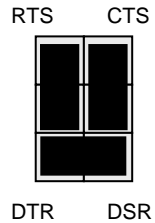

Figure 12 Jumper Settings on Flow Control block for various serial port flow control and handshaking configurations (see Figure 10 for location of jumper block)
5. Set the hardware flow control jumpers to *RTS/CTS Flow Control Across CATx Link* as shown in Figure 12. This mode will support most, but not all, serial mouse and trackball devices.